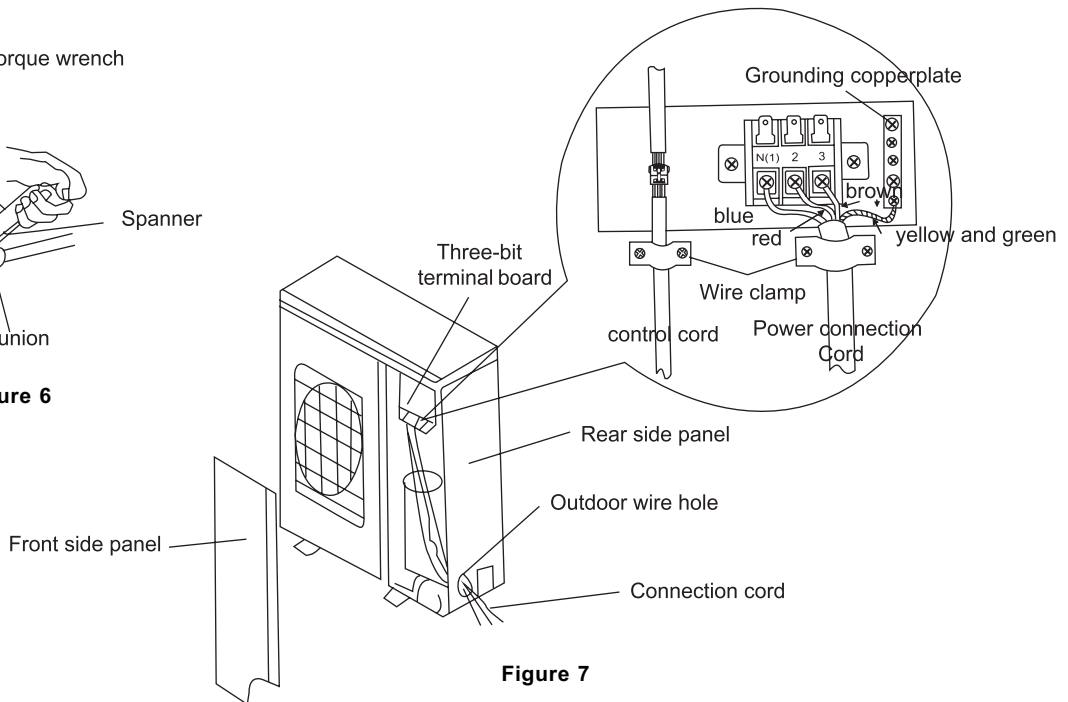

Figure 7
2. Remove the wire clamp and connect the end of the power connection cord with screws to the wiring terminal board as shown in figure 7.